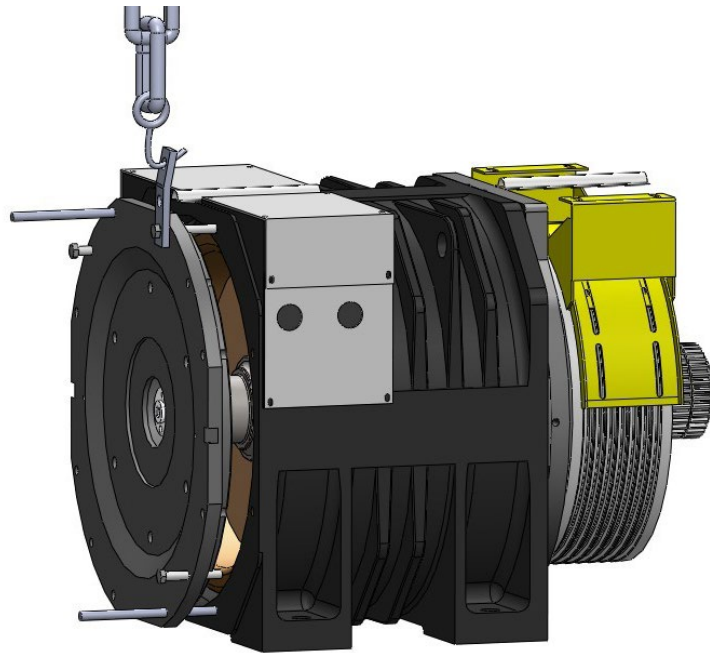

Figure 71 Remove End Cover
4. Hoist out the end cover with hoisting equipment, until the end cover is out of the bearing. Then take out the wave-spring. See Figure 71.